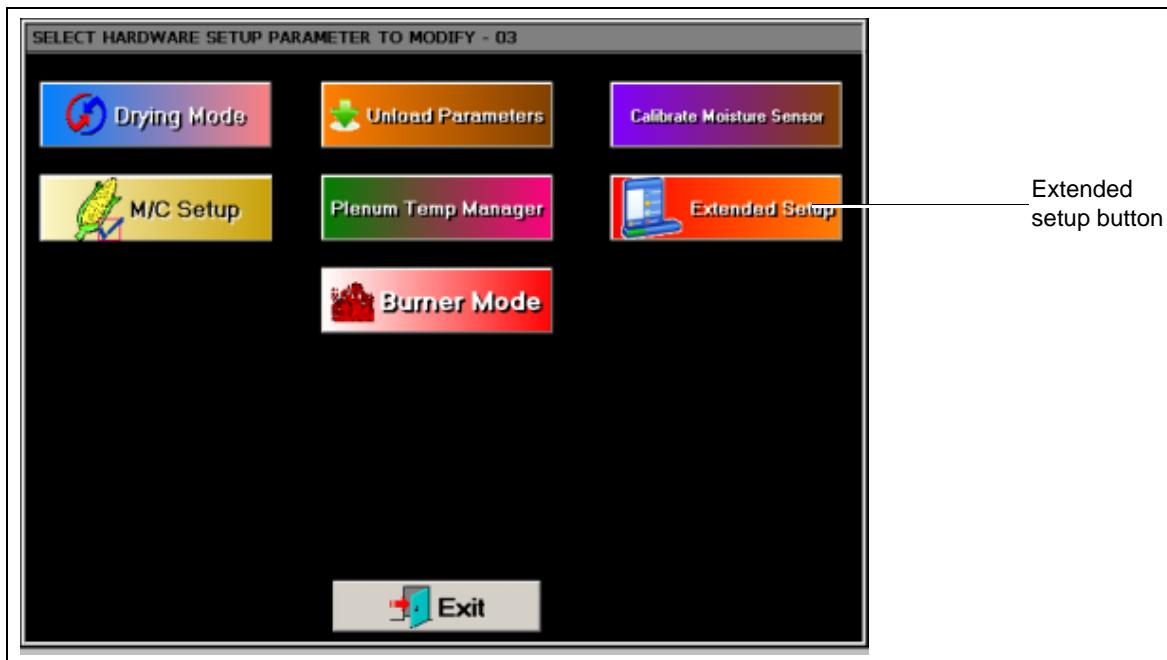

Figure 3H
- Return to the “Default Operation Screen”. Turn the Unload switch to “Manual” and set the meter roll speed setpoint to 5% (50).
- Press the “Setup” button at the bottom of the “Default Operation Screen” to return to the “Setup Screen”. Touch the “Extended Setup” button. (See Figure 3H.)